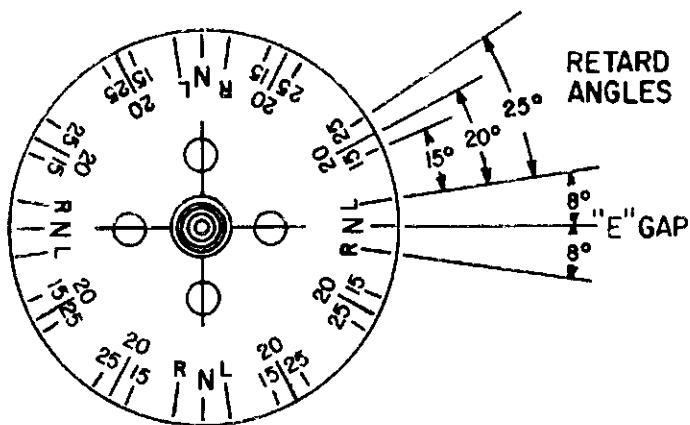

Figure 5-5 Timing Marks on Rotating Magnet
(2) Back the engine up a few degrees and again bump forward toward number one cylinder firing position while observing timing lights. Both lights should go out to indicate opening of the main breakers when the timing pointer is indicating within the width of the "L" or "R" mark. If breaker timing is incorrect, loosen breaker screws and correct. Retorque breaker screws to 20 to 25 in. lbs.
(4) Back the engine up a few degrees and again bump forward toward number one cylinder firing position until pointer is aligned with 15° retard timing mark. See figure 5-5. Retard breaker should just open at this position.
(5) If retard timing is not correct, loosen cam securing screw and turn the retard breaker cam as required to make retard breaker open per paragraph c(4). Retorque cam screw to 16 to 20 in. lbs.
(6) Observe that tachometer breaker is opened by the cam lobe. No synchronization of this breaker is required.
(7) Check action of impulse coupling (D-2000 series only). With the ignition switch off observe breaker cam end of rotor while manually cranking engine through a firing sequence. Rotor should alternately stop and then (with an audible snap) be rotated rapidly through a retard firing position.